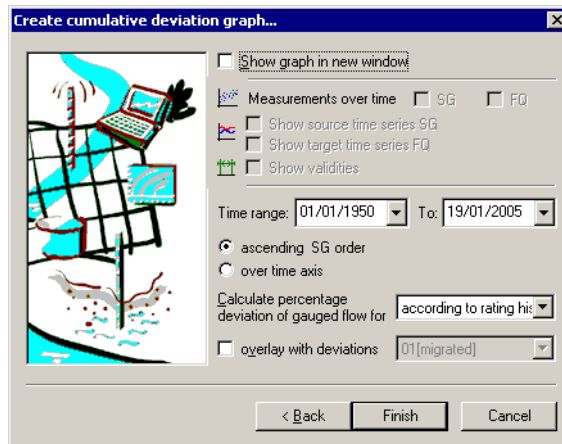

Fig. 151 Cumulative deviation graphs: sorted in ascending order
- Make sure that the option **ascending S order** is activated (see Fig. 151, p. 234).